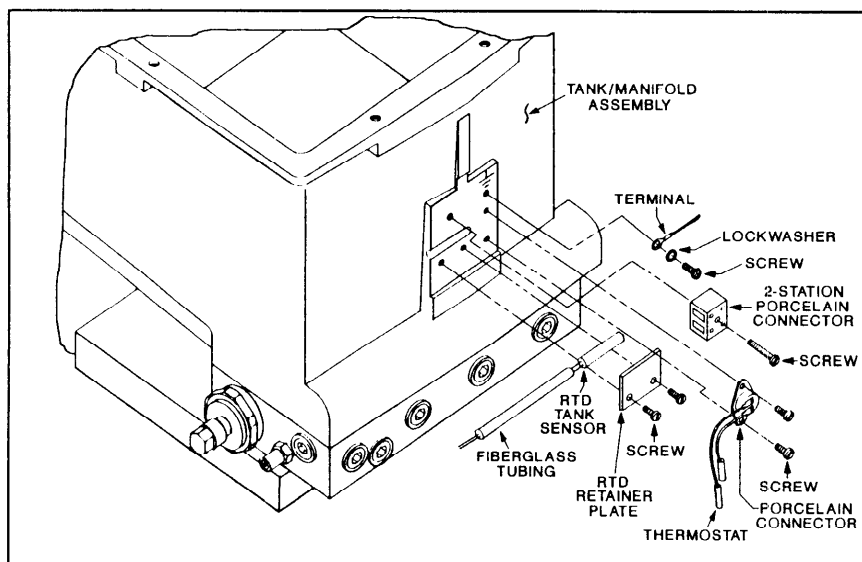

Figure 7.14
4. Remove the two screws that secure the RTD retainer plate to the tank, then remove the plate (see Figure 7.14).